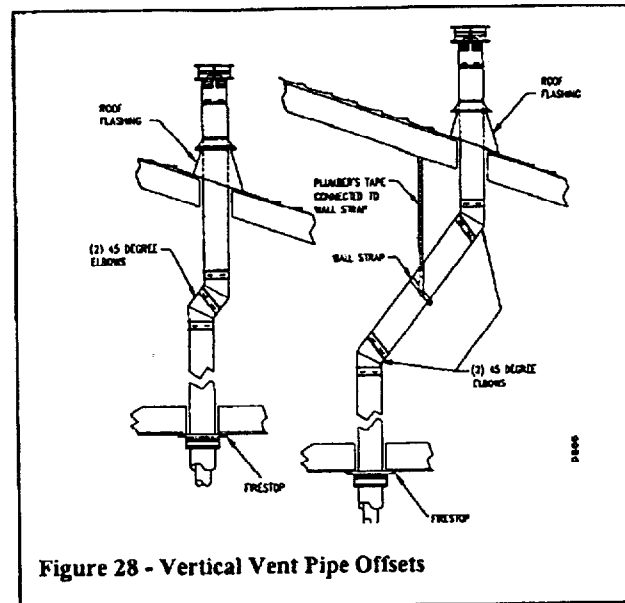
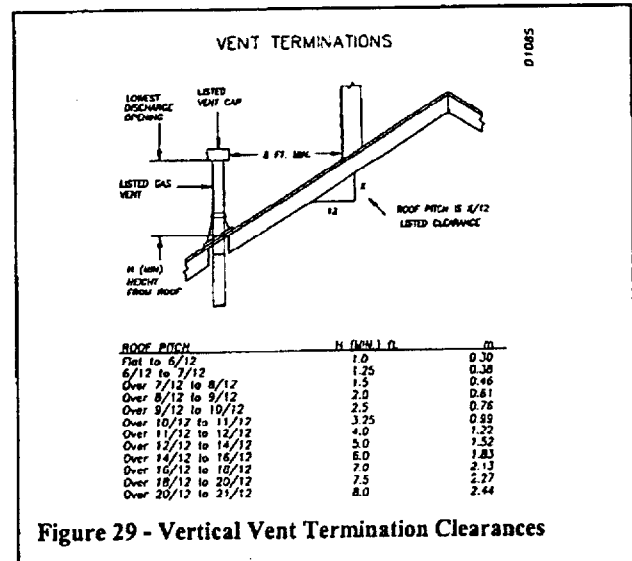

Figure 28 - Vertical Vent Pipe Offsets
Figure 29 - Vertical Vent Termination Clearances
1. Determine the route that your vertical venting will take. If ceiling joists, roof rafters, or other framing will obstruct the venting system, consider an offset (see Figure 28) to avoid cutting load-bearing members. **NOTE: Pay special attention to these installation instructions for required clearances (air space) to combustibles when passing through ceilings, walls, roofs, enclosures, attic rafters, etc. Do not pack required air spaces with insulation. Also note maximum vertical rise of the venting system and any maximum horizontal offset limitations. Offsets must fall within the parameters shown in Figure 29 and Figure 14 on page 6.**
Note: If an offset is needed to avoid obstructions, you must support the vent pipe every 3 feet. Use wall straps for this purpose (see Figure 28). Whenever possible, use 45° elbows instead of 90° elbows. The 45° elbow offers less restriction to the flow of the flue gases and intake air.
5. Place the flashing over the pipe section(s) extending through the roof. Apply a bead of silicone or roof sealer to the bottom flange of the flashing and secure the base of the flashing to the roof and framing with roofing nails. Be sure roofing material overlaps the top edge of the flashing as shown in figure 28, on page 12. There must be a 1" clearance from the vent pipe to combustible material.
6. Continue to add pipe section(s) until the height of the vent cap meets the minimum building code requirements described in Figure 14, on page 6. Note you must increase the vent height for steep roof pitches, nearby trees, adjoining rooflines and other adjacent factors, which may cause poor drafting or a down-draft condition (see Figure 29, on page 12). Increasing the vent height may solve this problem.